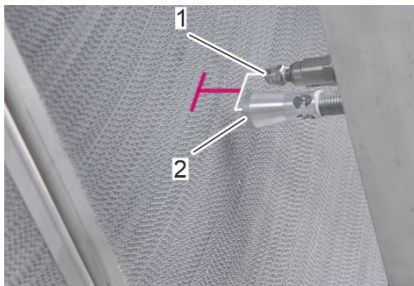

Fig. 46: Same nozzle distance to the rotor surface
10. Make sure, that the high-pressure water nozzle (Fig. 46/1) and the compressed air nozzle (Fig. 46/2) have the same distance to the rotor surface.